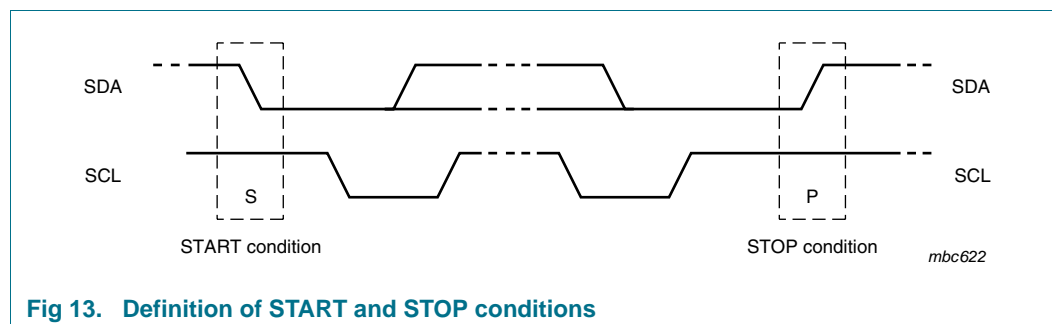

Fig 13. Definition of START and STOP conditions
Both data and clock lines remain HIGH when the bus is not busy. A HIGH-to-LOW change of the data line, while the clock is HIGH, is defined as the START condition (S). A LOW-to-HIGH change of the data line, while the clock is HIGH, is defined as the STOP condition (P). The START and STOP conditions are illustrated in Figure 13.